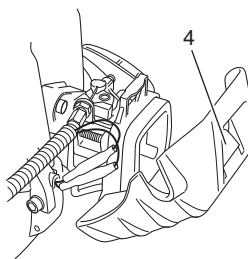

Fig. 3
Press the upper tab (4) and open the air cleaner cover. (Fig. 3)
Press the upper tab (4) and close the air cleaner cover. (Fig. 3)